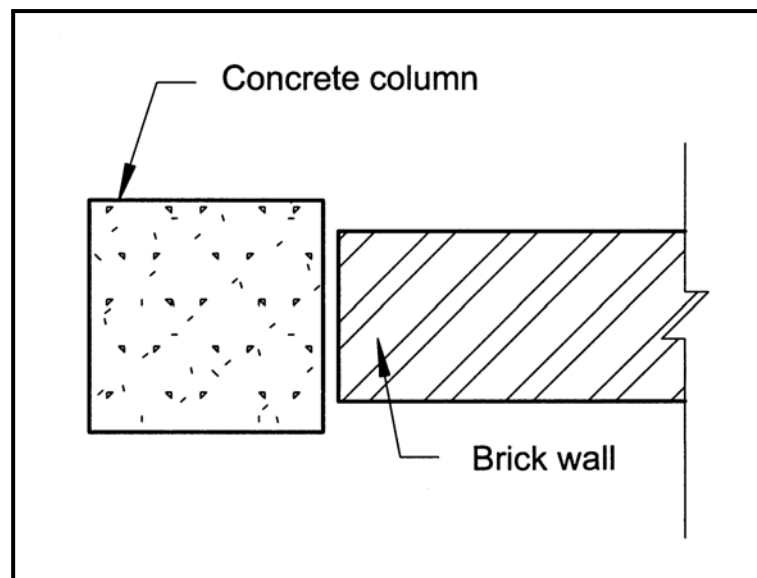

FIGURE 4.3
4.3 FIGURE 4.3 below shows the plan of a concrete column and a brick wall. In some instances a gap is left between the wall and column as shown in the sketch. Study the sketch and answer the following questions.